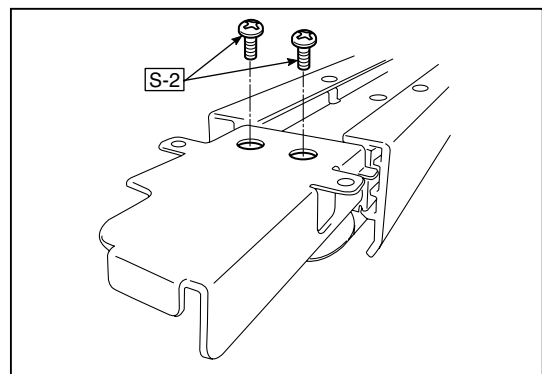

Fig.18
- Remove the "S-2" screws shown in the figures 18 and 19 and then remove the CIS Unit.